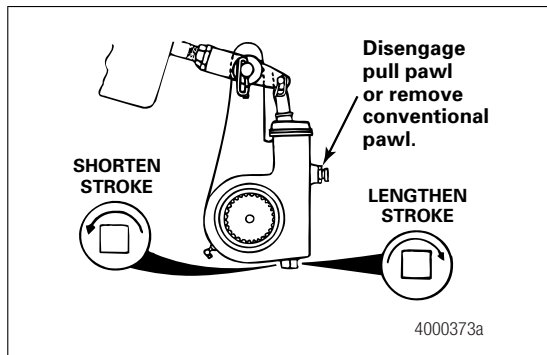

Figure 6.3
- If the free stroke measurement is not within specification:** Turn the adjusting nut to adjust free stroke. Figure 6.3. Follow the steps above to check free stroke again, until the measurement is within specification.